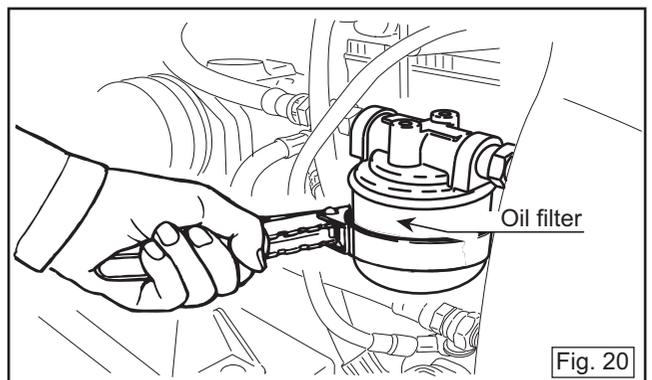

Fig. 20
1. Replacing the oil filter (Fig. 20)